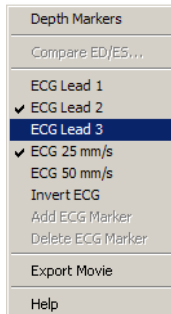

Fig. 47 Change ECG lead option
- 2 Choose the desired ECG Lead from the pop-up menu (see Figure 47).
- 2 Choose the desired ECG Lead from the pop-up menu (see Figure 47)